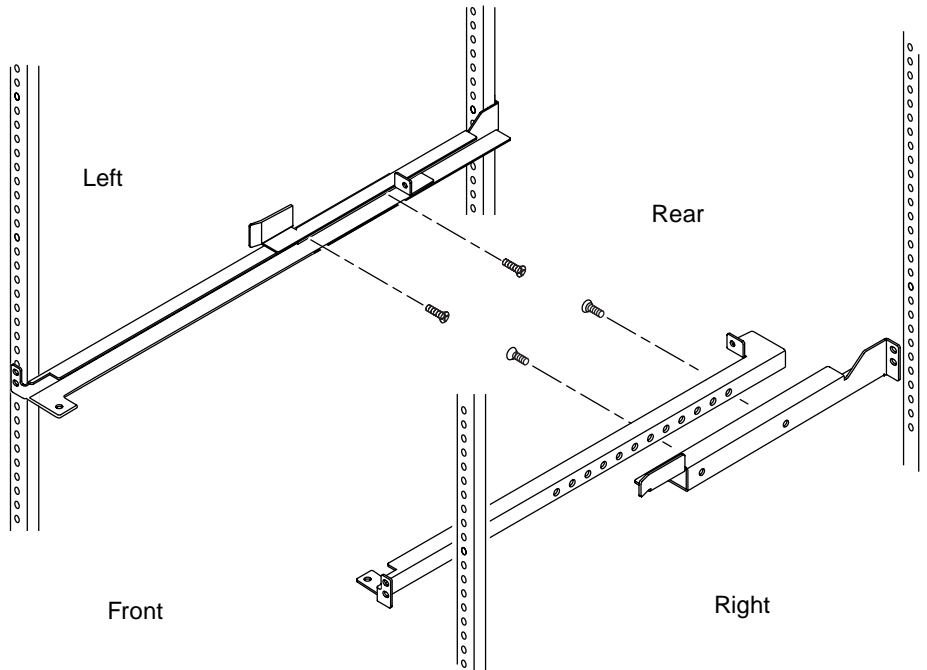

FIGURE 4 Assembling the Mounting Rails
4. Assemble the mounting rails (FIGURE 4).